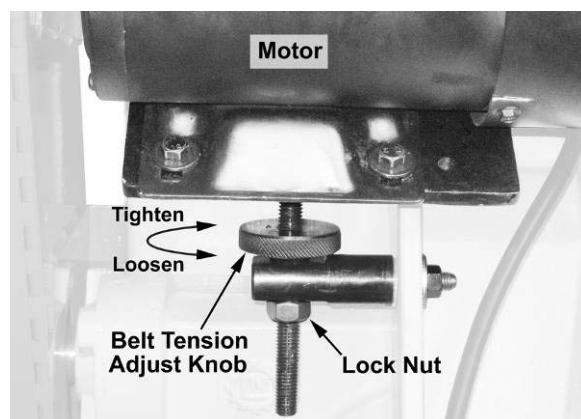

Figure 23
3. Loosen the *belt tension adjust knob* located in the rear under the motor (see Figure 23 for knob direction). Lift the *motor* upward to loosen the belt.
6. Tighten the V-belt by turning the *belt tension adjust knob* (see Figure 23). The belt must be secure enough so it does not slip when the machine is running. Do not over tighten. This will cause premature wear on belt and pulley bearings.